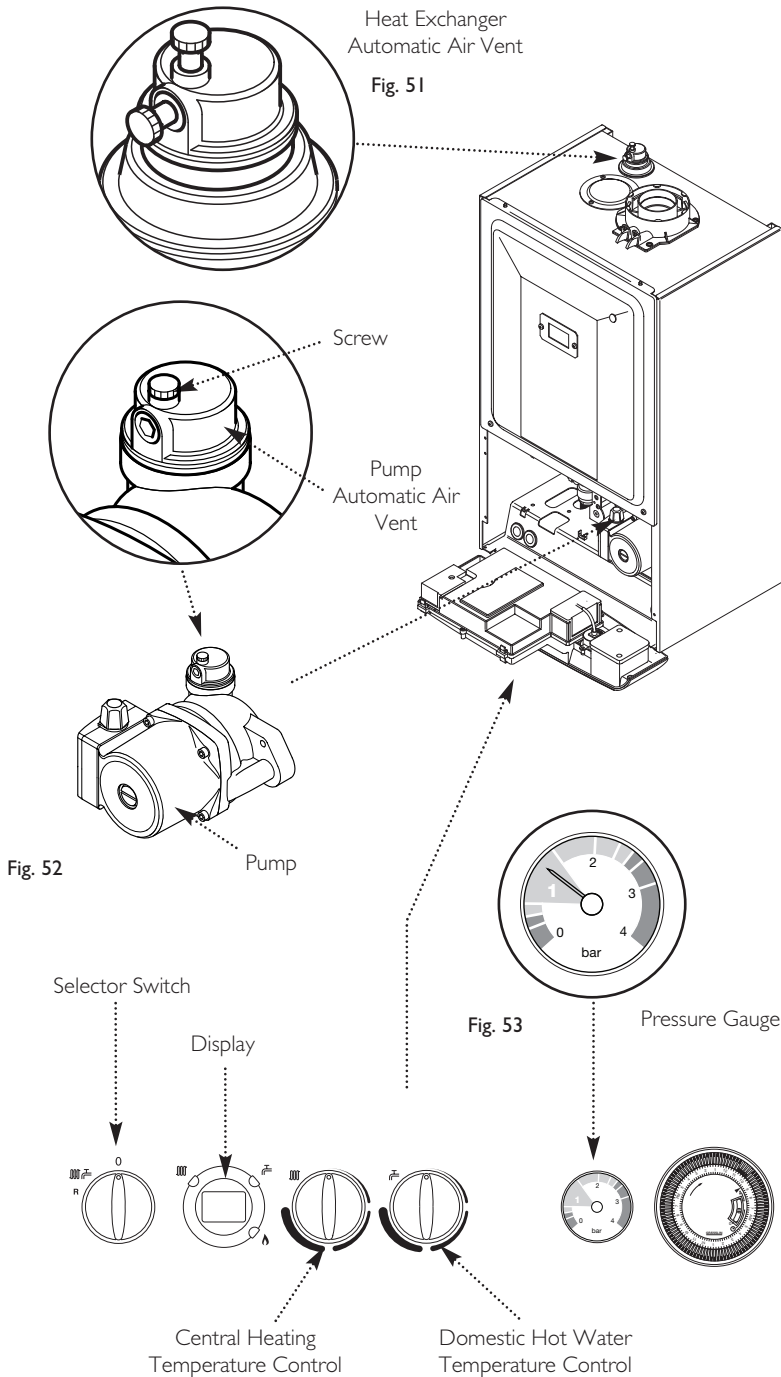

Fig. 54
11. Turning either of the temperature control knobs will set the relevant temperature. When the knob is turned the display will alter and show the selected temperature. After a few seconds the display reverts to show the current boiler temperature (Fig. 54).